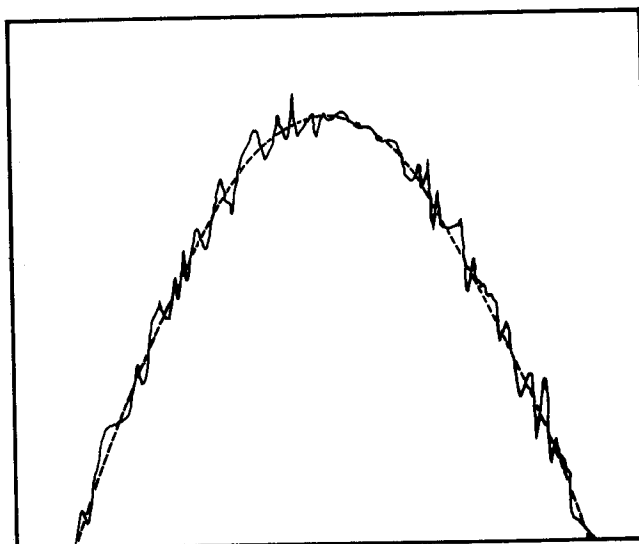

Figure 2-7. SIGNAL VOLTAGE WITH CONVERTER NOISE
c. **INTERNAL CONVERTER NOISE.** When the instrument is shorted in the AC mode, the converter may produce a residual noise output of approximately 100 uv. This noise voltage will cause an insignificant error as long as AC input signals of 1 mv or larger are applied to the instrument. Figure 2-7 shows a typical half wave of the signal voltage at the output of the converter amplifier. It is easily seen that the noise contributes very little to the average value of the signal and is well within the 2.7% accuracy of the instrument at 1 mv.